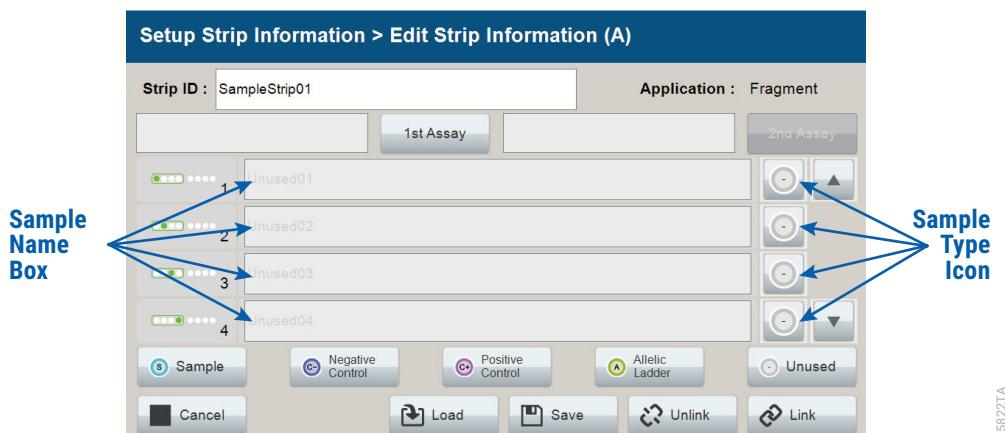
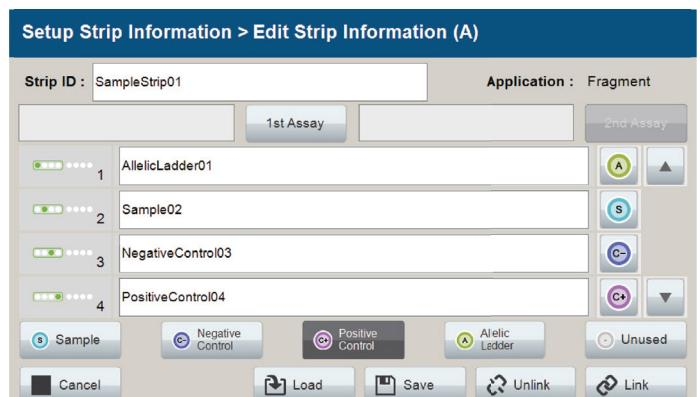
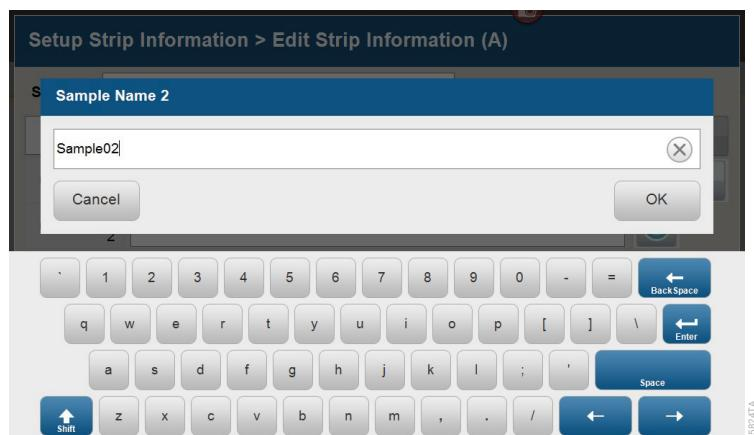
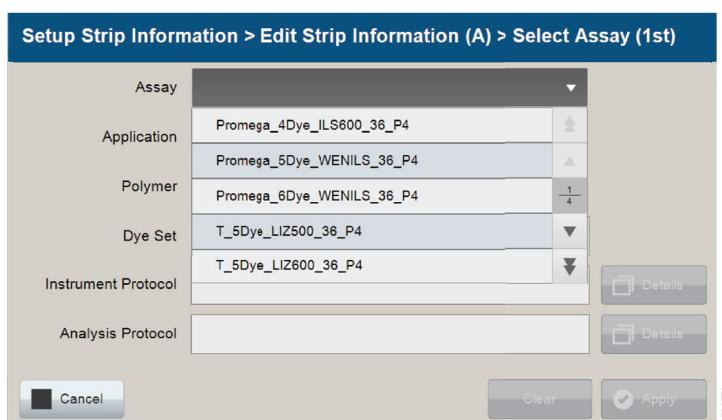

Figure 62. Sample Type and Sample Name on 'Edit Strip Information' screen.
Figure 63. Sample Name Entry on 'Edit Strip Information' screen.
Figure 64. 'Set Sample Name' window.
Figure 65. 'Select Assay' window.
2. Select a sample type on the 'Edit Strip Information' screen (Figure 62). Sample types must be selected for each well position before the **Sample Name** box becomes active for entry of sample name. Sample types available for fragment analysis are as follows.
- To assign a sample type to a well, select the appropriate sample type button along the bottom of the 'Edit Strip Information' screen (Figure 62), and then select the **Sample Type** icon to the right of the sample name field for the desired well. This icon will then display the sample type selected for that well (Figure 63).
- Enter a sample name for each well position by selecting the **Sample Name** box adjacent to the well number on the 'Edit Strip Information' screen (Figure 63). This opens the 'Set Sample Name' window, and a keypad will become active on the touch screen (Figure 64). Alternatively, the Sample Name can be entered using a traditional keyboard if one is connected to the Spectrum Compact CE System. Enter the appropriate sample name, and then select **OK** to exit and return to the 'Edit Strip Information' screen. The following table lists rules for characters that can be used for a sample name.
5. The Spectrum Compact Control Software includes pre-loaded run assays for use with chemistries available from Promega and other commercial suppliers. To create a new assay or modify an existing assay, see Section 7. To assign a run assay to an injection set, select **1st Assay** on the right side of the 1st Assay field (Figure 63). This opens the 'Select Assay' window (Figure 65). Select an assay from the drop-down list using the scroll buttons to find the appropriate assay.